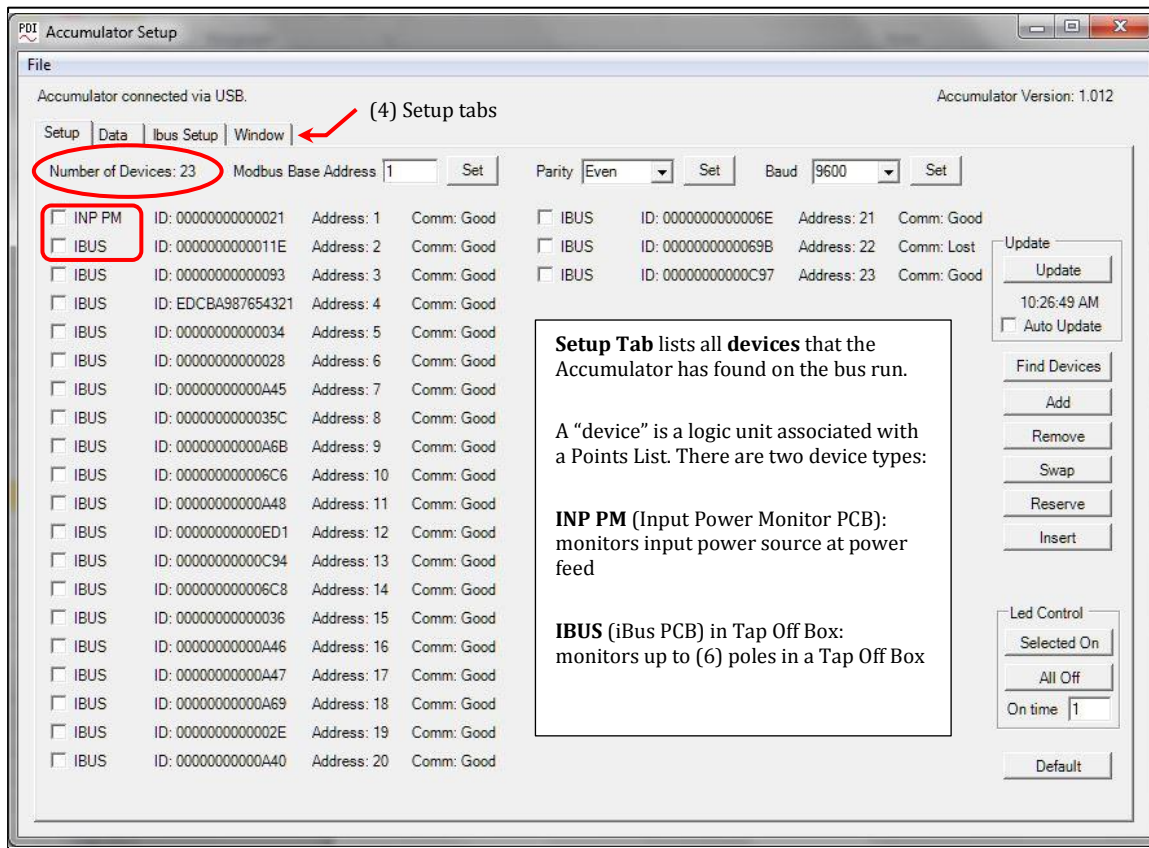

Figure 8 Accumulator Setup: Setup Tab
- a. A screen will appear on your PC like the screen in Figure 8 with the **Setup** tab selected. All devices that the Accumulator has found in the bus run are listed on this screen with the device count.
The Setup Tab (Figure 8) lets you identify the monitored devices along the bus run, which are source input power or Tap Off Boxes. Because devices are on a bus, devices are not identified by their order on the bus.